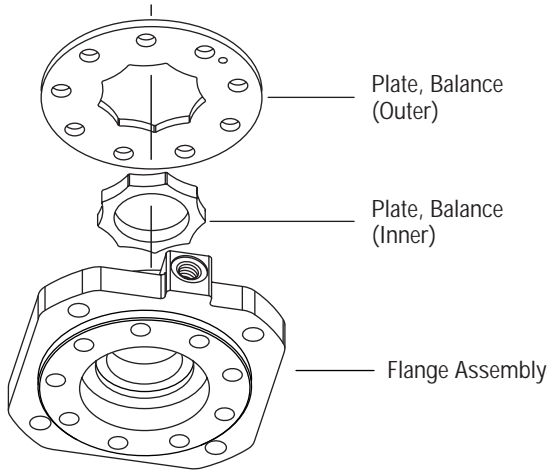

Figure 9
20 Install spring, belleville disc with the outer diameter touching the bottom of the groove in the flange. The inner diameter of the spring, belleville disc will be raised towards the balance plate (balance plate shown in figure 9).
- 22 Install inner and outer or one piece balance plate onto mounting flange. Align shuttle flow hole of balance plate with shuttle flow hole of mounting flange (see figure 9).